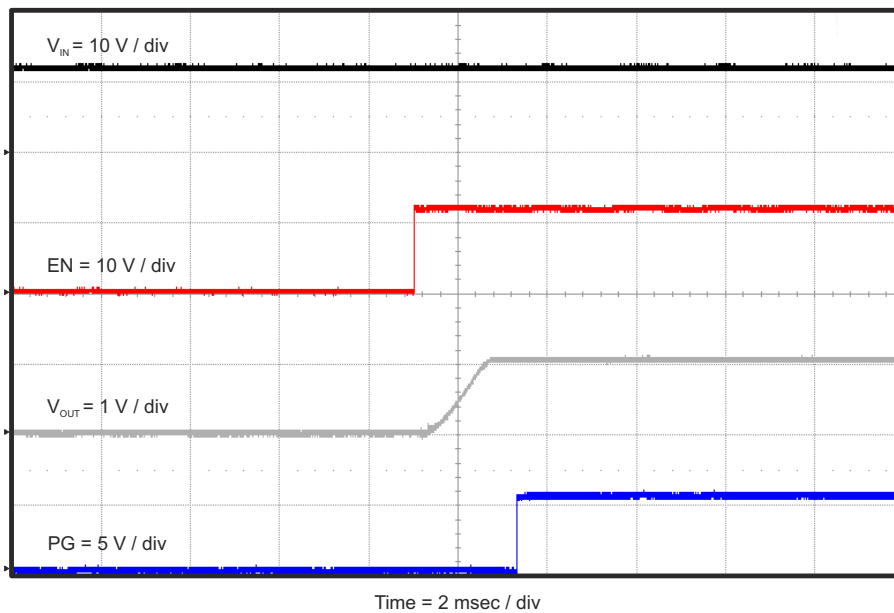

Figure 4-12. TPS54625EVM-608 Start-Up Relative to EN
The TPS54625EVM-608 start-up waveform relative to enable (EN) is shown in Figure 4-12. Load = 1 Ω resistive.